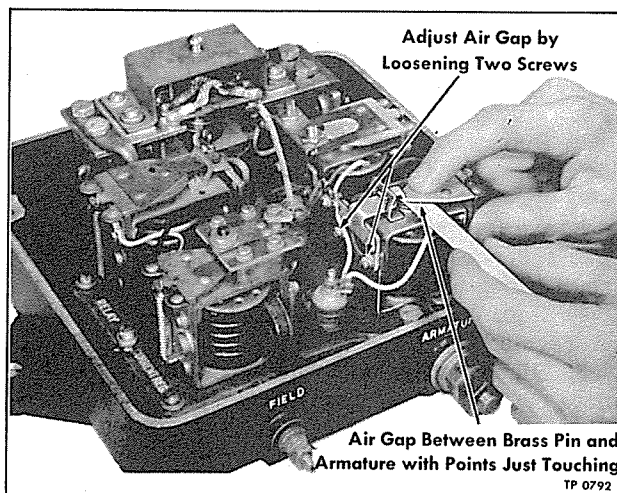

Figure 4—Voltage Regulator Air Gap Check and Adjustment
1. Press armature down until contact points touch, then measure air gap between armature and brass residual pin in core (fig. 4). This dimension should be as listed under "Specifications" later in this section.
2. If air gap requires adjustment, loosen two adjusting screws (fig. 4) holding lower contact bracket. Adjust bracket up or down until gap is as specified under "Specifications" later in this section. Be sure screws are tightened well after adjustment.